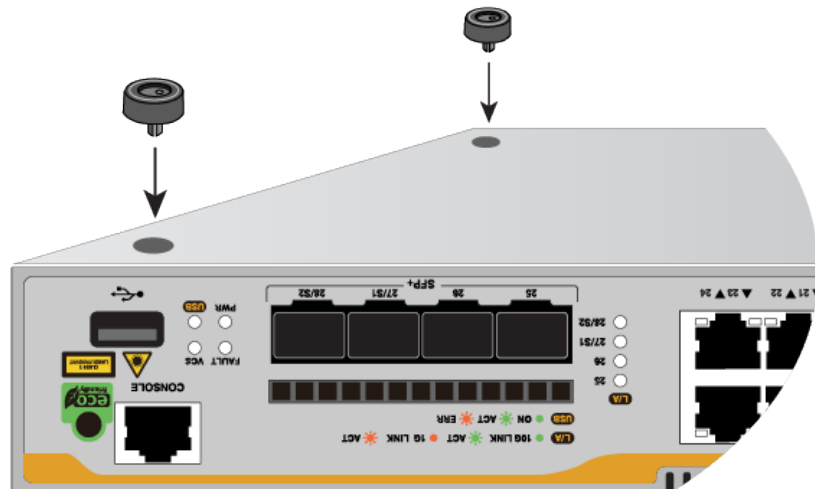

Figure 24. Placing the Bumper Foot Units on Base Corner Holes
4. Place a rivet housing and bumper foot unit onto a hole at each corner shown in Figure 24. The switch has four holes.